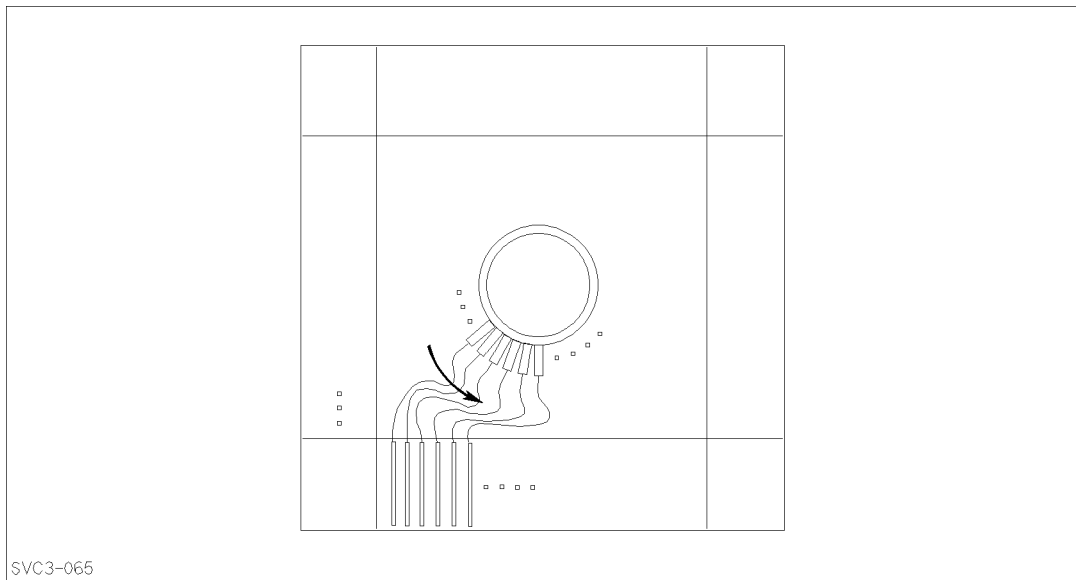

Figure 3-35. Positioning the Cables in the SWM
4. Bend the cables of the measurement pin assembly in the direction shown in Figure 3-35.